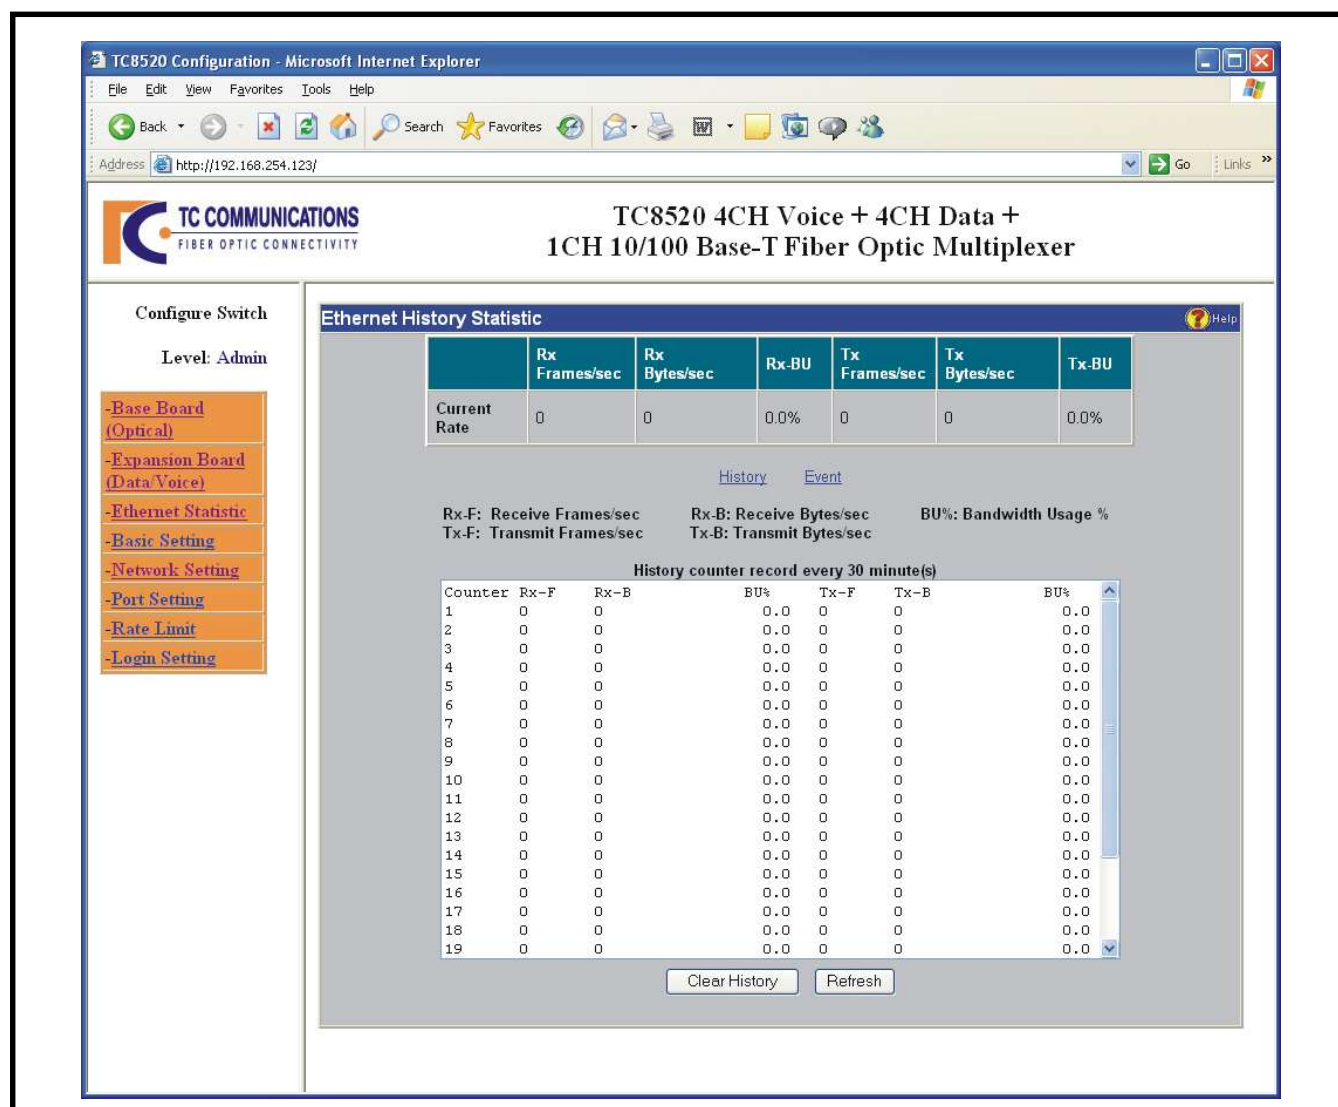
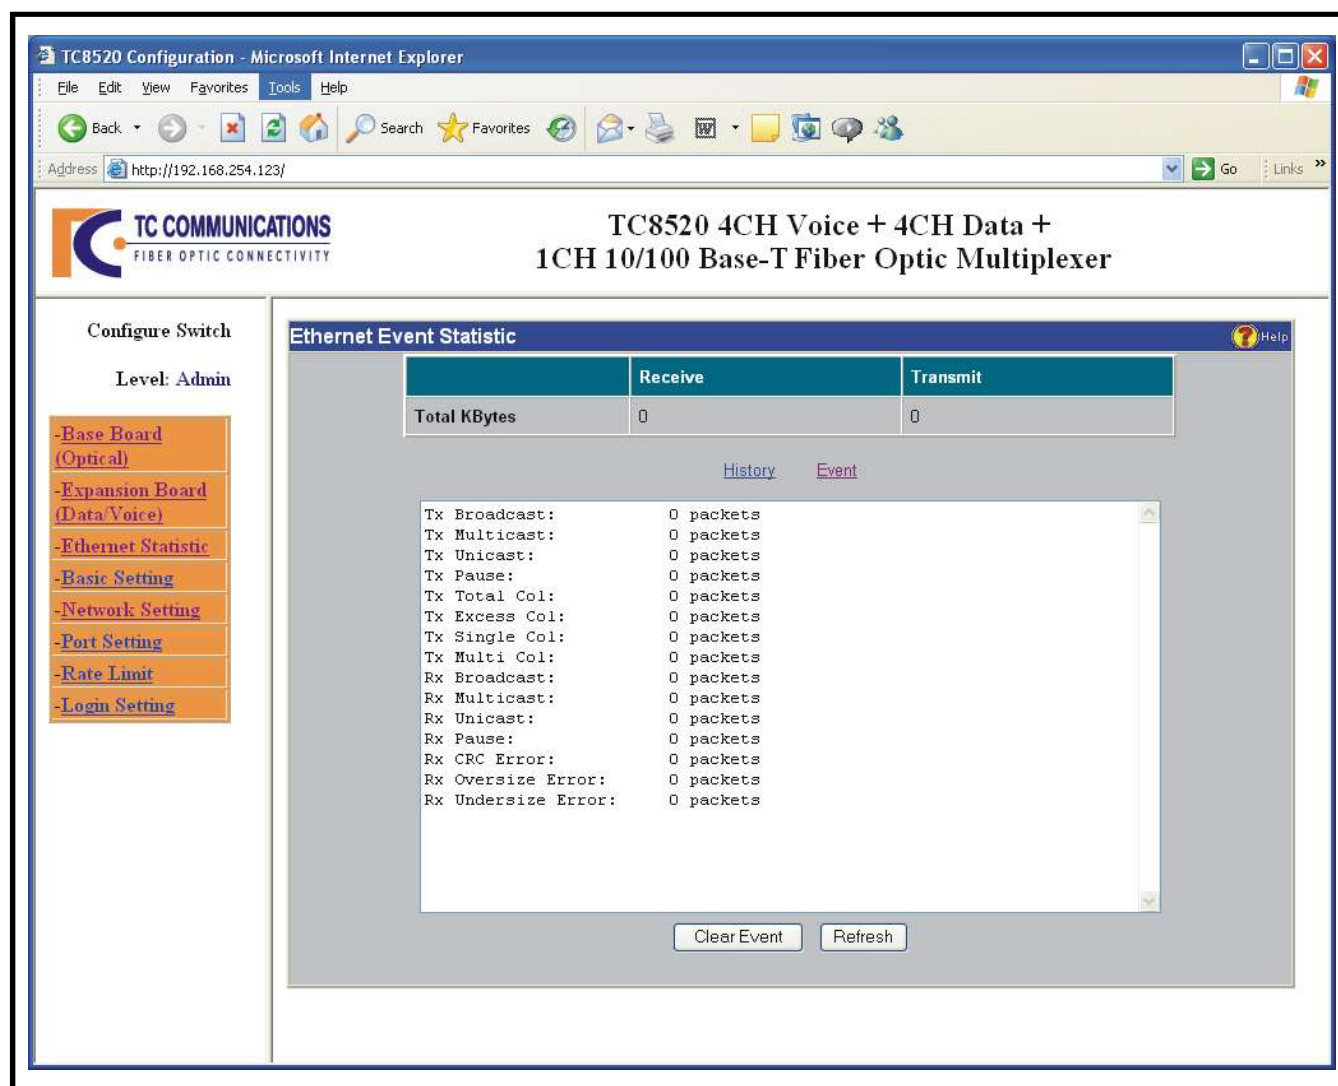

Figure 16. TC8520's Ethernet History Statistics
Figure 17. TC8520's Ethernet Port Event Statistics
Click the "Ethernet Statistic" link on the left side of the page. You will see the page as in Figure 16 below. It will show the bandwidth status and history and/or event of the Ethernet port.
2. On the center of the window you will see "History counter record every "30" minute(s)." You can set up your own preferred time intervals specified in the Basic Configuration window Figure 17, on page 31.
Click the "Ethernet Statistic" link on the left side of the page. You will see the window as in Figure 16 on page 30. It shows the bandwidth status and history and/or event of the Ethernet port. Click on the "Event" link on the middle of the page and you should see the window as in Figure 17 below.
The "Record Period" field is used to set the time intervals for history status purposes. You can set the time intervals anywhere from 1 minute to 120 minutes. The default interval is 30 minutes. There are 24 counters to record the BU% history. (See the "History counter record" example on Figure 16, page 30).